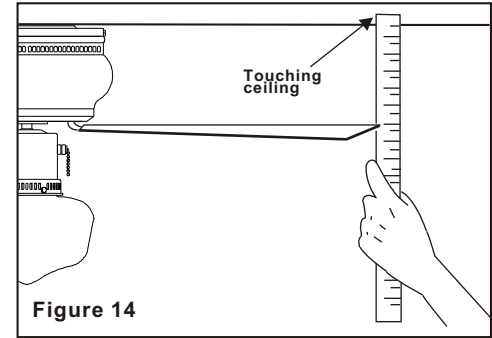

Figure 14
2. Most fan wobbling problems are caused when blade levels are unequal. Check this level by selecting a point on the ceiling above the tip of one of the blades. Measure this distance. (Fig. 14) Rotate the fan until the next blade is positioned for measurement. Repeat for each blade. The distance deviation should be equal within 1/8".